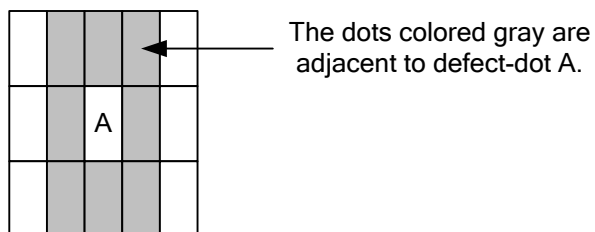

Fig. 11.6
- The definition of adjacent dot is shown as Fig. 11.6.